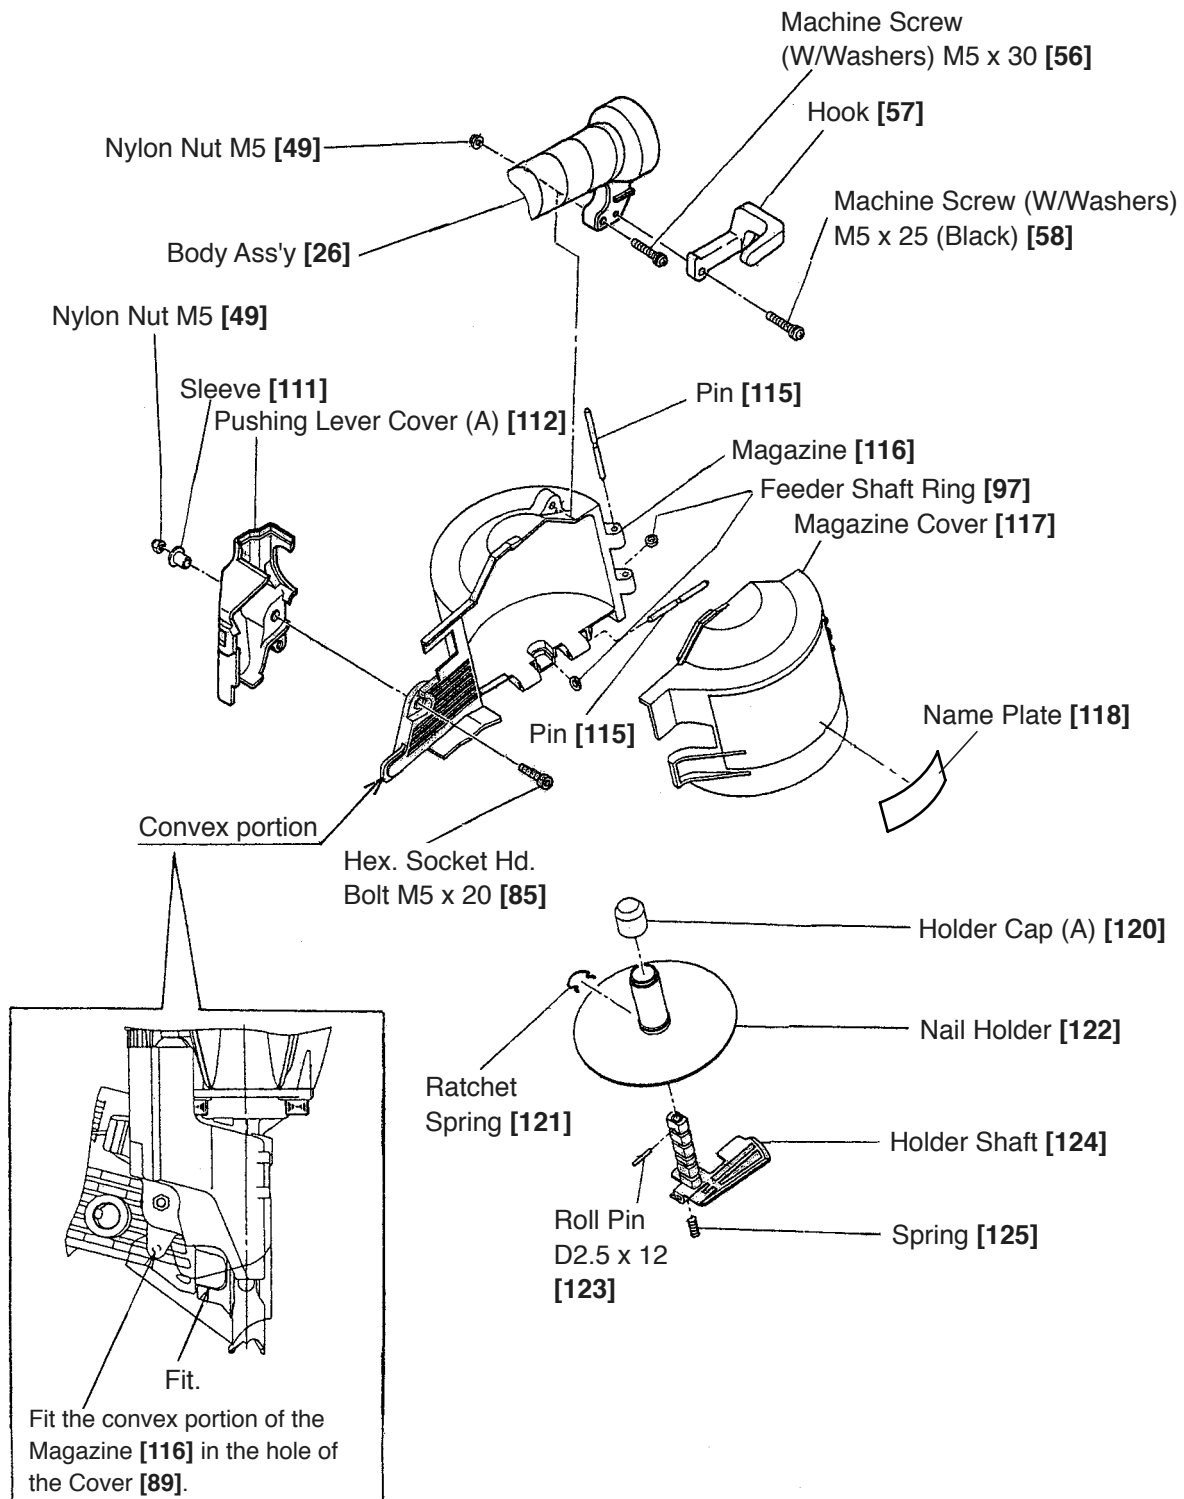

Fig. 26 Disassembly and reassembly of magazine section
(a) Disassembly (Fig. 26)
- Fit the convex portions of Nail Stopper (A) [93] and Nail Stopper (B) [95] in Stopper Spring (A) [94] and Stopper Spring (B) [96] securely.
- After reassembly, push Nail Stopper (A) [93] and Nail Stopper (B) [95] with fingers to check that they return smoothly.
- Bend the tip of the Cover [89] and engage it with the convex portion of the Magazine [116] (Fig. 26).
- Check that Plunger (A) [108] moves smoothly.
- Check that Pushing Lever (A) [47] slides smoothly.
- Push Nail Stopper (A) [93] and Nail Stopper (B) [95] with fingers to check that they return securely.
- Check that the Model NV 90AB2 will not operate only by pulling the Trigger [30]. Also check that the Model NV 90AB2 will not operate only by depressing Pushing Lever (A) [47].